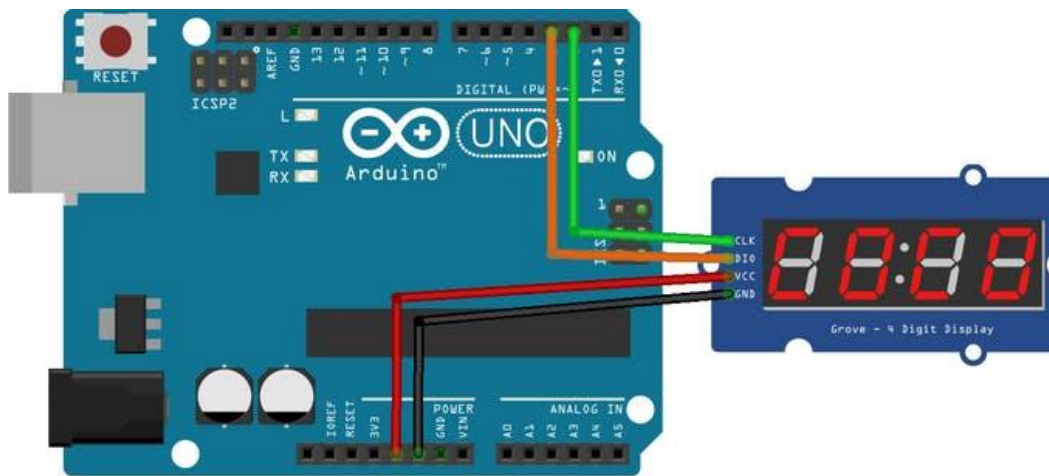

Fig. 5.2 Connecting TM1637 to Arduino
1. Build the circuit according to the circuit diagram (Figure 5.2) given below: